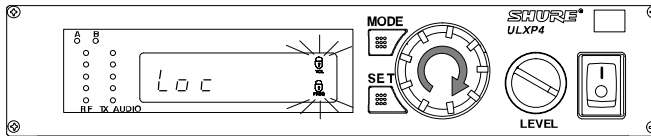

FIGURE 44
2. Rotate the control knob until one or both of the lock icons flashes on the receiver display, as shown in Figure 44.